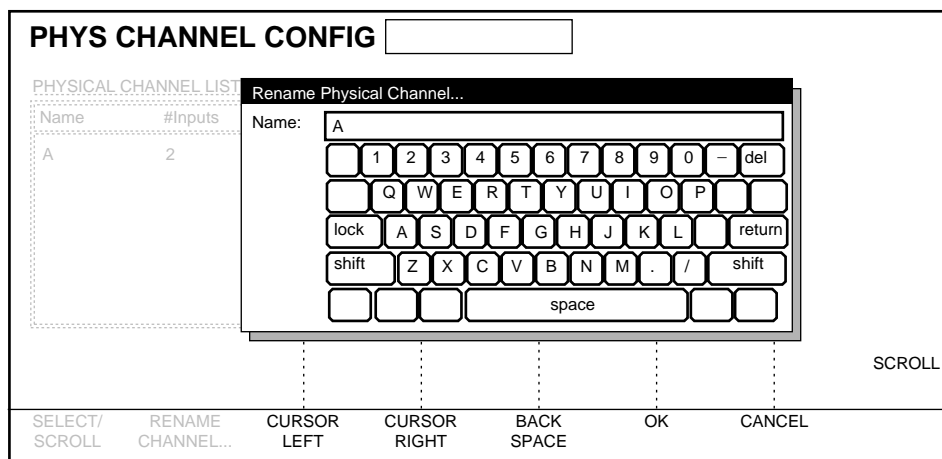

Figure 3-4. Rename Menu Example
1. Press the RENAME... button to bring up a menu similar to Figure 3-4.